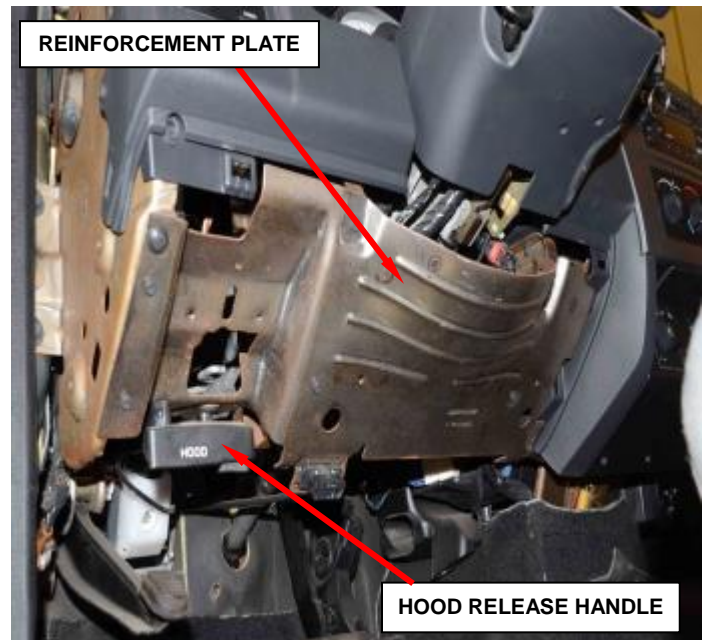

Figure 50 – Steering Column Reinforcement Plate
6. Remove the steering column reinforcement plate (Figure 50).
7. Remove the two hood release handle screws and position the handle to the side (Figure 50).